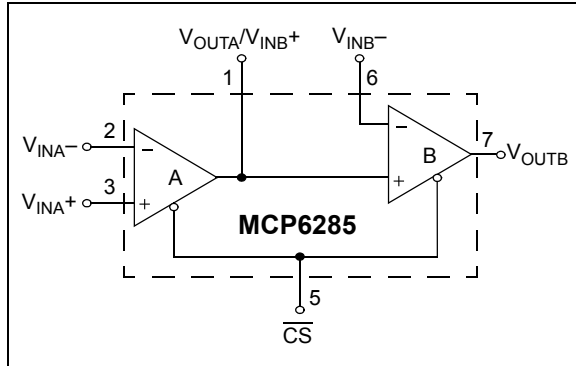

FIGURE 3-4: Cascaded Gain Amplifier.
The MCP6285 is a dual op amp with chip select (\overline{CS}). The chip select line is available on what would be the non-inverting input of a standard dual op amp (pin 5). This feature is provided by connecting the output of op amp A to the non-inverting input of op amp B, as shown in Figure 3-4. The chip select line, which can be connected to a microcontroller I/O line, puts the device in Low Power mode. Refer to **Section 3.3 “MCP6283/5 Chip Select (CS)”**.